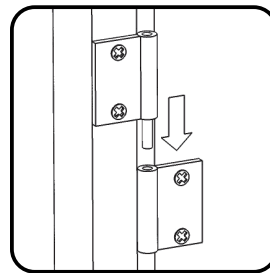

Figure 6
Attach Doors (K) and (L) to unit by sliding door hinges into side panel hinges. (See Figure 6)